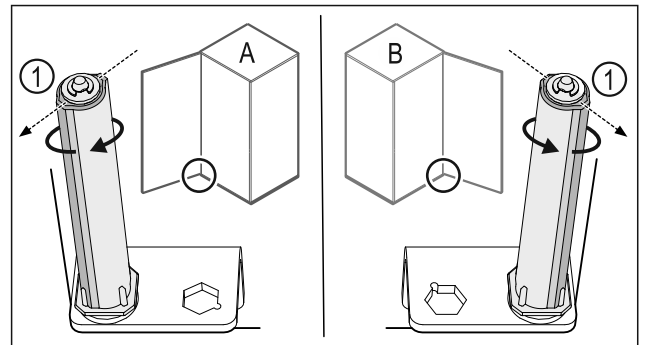

Fig. 41 Left-hinged (A) / Right-hinged (B)
- ▶ Turn the closing system against the resistance until the bar of the closing system Fig. 41 (1) points outwards.